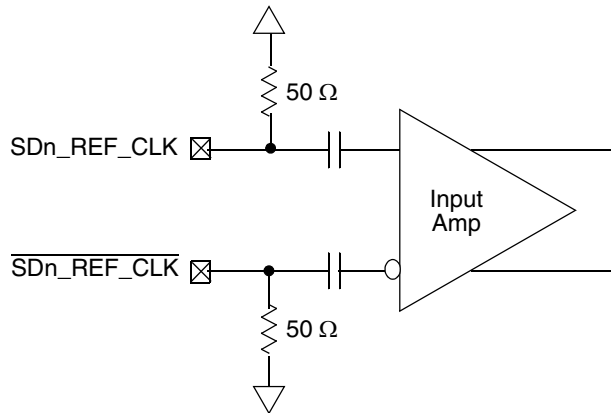

Figure 58. Receiver of SerDes Reference Clocks
Figure 58 shows a receiver reference diagram of the SerDes reference clocks.
- The $\overline{SDn_REF_CLK}$ and SDn_REF_CLK are internally AC-coupled differential inputs as shown in Figure 58. Each differential clock input ($\overline{SDn_REF_CLK}$ or SDn_REF_CLK) has a 50- Ω termination to SGND (xcorevss) followed by on-chip AC-coupling.